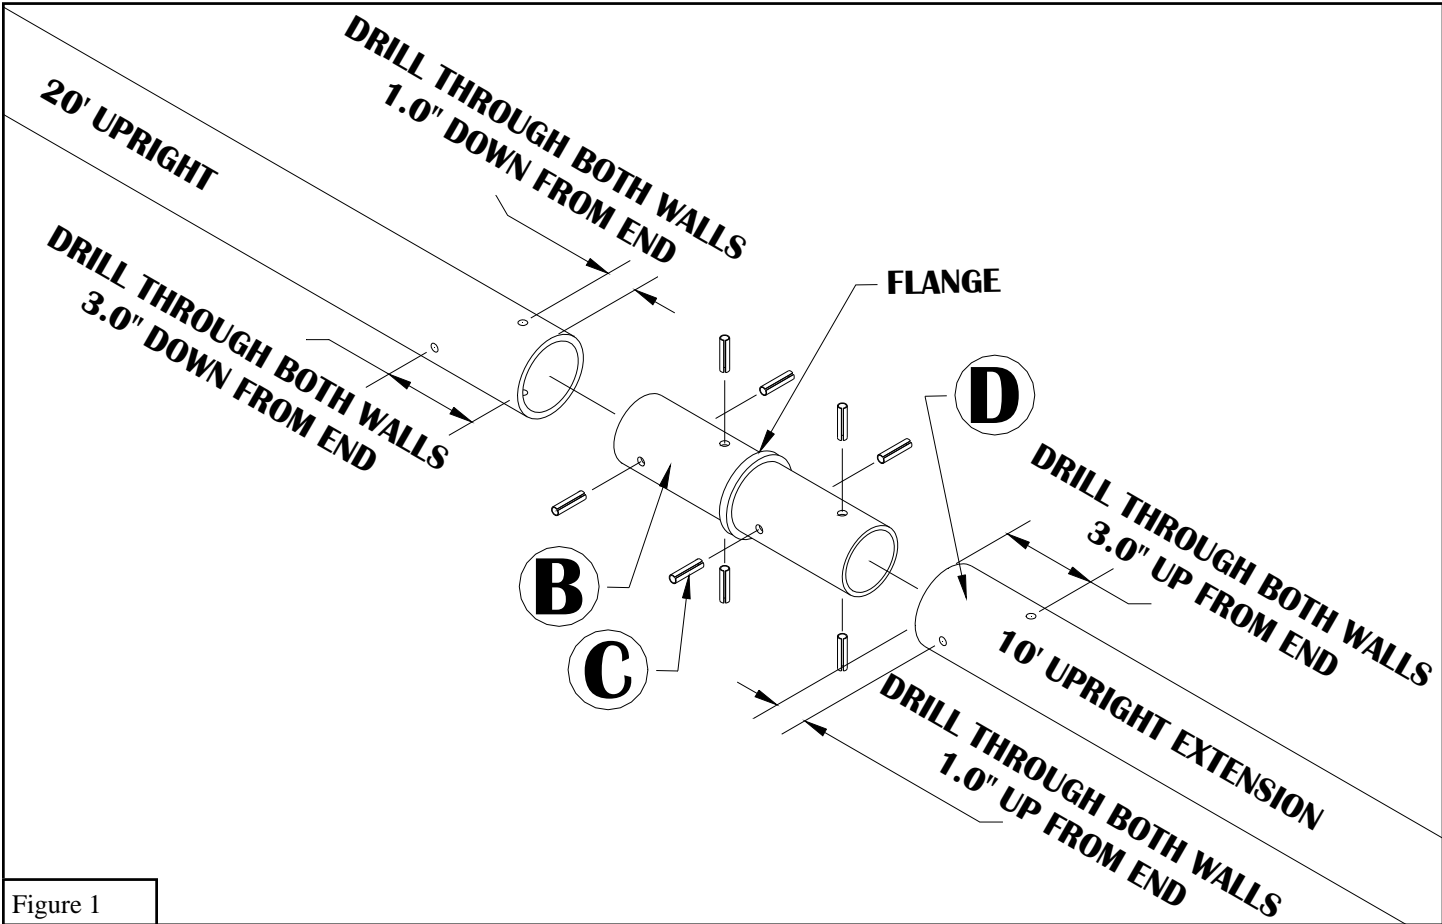

Figure 1
1. Place the *10' Upright Extensions* (D) on a flat surface, insert *Extension Adaptor* (B) into one end making sure the flange is flush with the *10' upright extensions* (D). Position the other upright onto the exposed end of *Extension Adapter* (B). Clamp a straight edge along the uprights and the adapter, to insure straightness during the drilling process. See Figure 1
2. Drill through entire assembly with 1/4" drill bit approximately 1" down from the bottom of the flange. Drive one of the *Spring Pins* (C) into the hole flush with the outside of the upright. Rotate the assembly 180 degrees and drive another *Spring Pin* (C) into the exit hole flush with the outside of the upright. Rotate the assembly 90 degrees and drill through the entire assembly once again approximately 3" from the bottom of the flange. Drive a *Spring Pin* (C) into the hole flush with the outside of the upright. Rotate the assembly 180 degrees and drive another *Spring Pin* (C) into the exit hole flush with the outside of the upright. Measuring from the top of the flange, repeat drilling process from above, and install *Spring Pins* (C). See Figure 1.